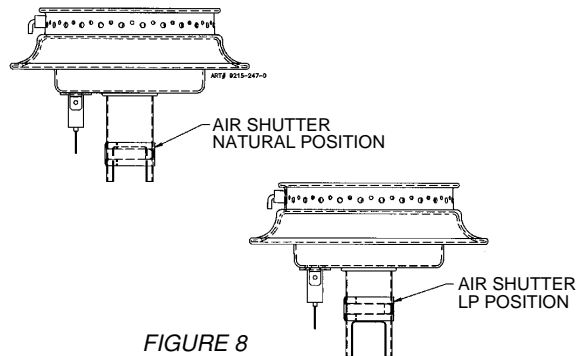

FIGURE 8
- d. Sealed burner adjustment. Adjust burner air shutter to the widest opening that will not cause the flame to lift or blow off the burner when cold according to figure 8.